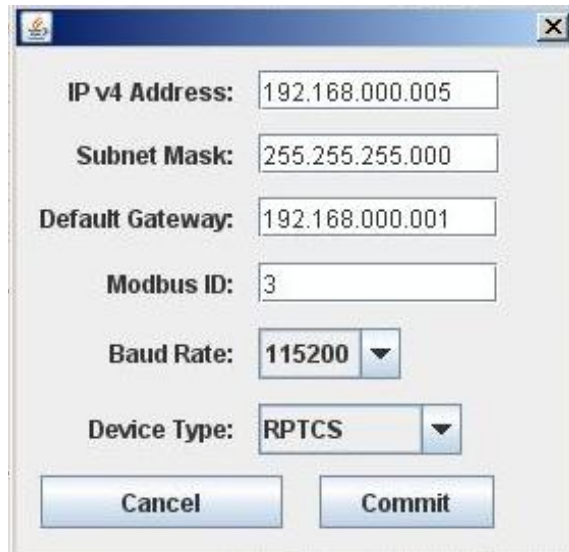

Figure 10 Network Settings
1. Click on the **Configuration** tab, as shown in Figure 10.